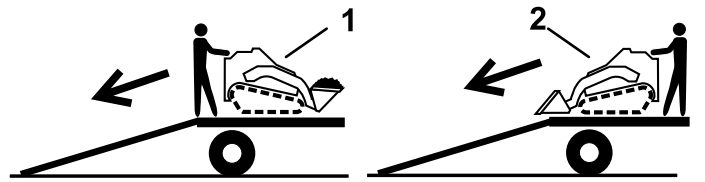

Figure 23
2. Unload the machine from the trailer with the heavy end up the ramp, carrying loads low (Figure 23).